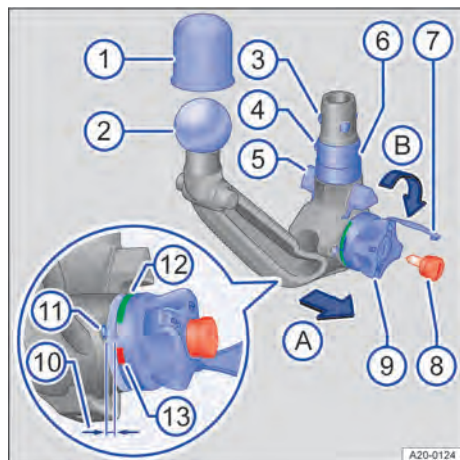

Fig. 158 Overview: removable ball coupling.
4. Check to ensure that the mounting, handwheel → Fig. 158 ⑨, shank ⑥ and the retaining balls ③ of the ball coupling are all clean and undamaged → ①. Clean if necessary.
1. Grasp the ball coupling underneath the ball head → Fig. 158 ② with one hand.
2. Remove the lock cap → Fig. 158 ⑦ from the lock and insert the key ⑧ into the lock.
3. Turn the key → Fig. 158 ⑧ anticlockwise.
4. Use your other hand to pull out the handwheel → Fig. 158 ⑨ in the direction of arrow A and hold it in this position → ⚠.
5. Turn the handwheel → Fig. 158 ⑨ in the direction of the arrow B until it engages. The ball coupling is now pre-tensioned. The red marking ⑬ on the handwheel must point towards the white marking ⑪ on the ball coupling. The handwheel protrudes clearly from the ball coupling. The gap between them is approximately 4 mm ⑩.
6. Check to see whether all retaining balls → Fig. 158 ③ can be pressed fully into the ball coupling shank ⑥.
2. Push the ball coupling firmly upwards until it engages. Both centring devices → Fig. 158 ⑤ must engage in the mounting points on the vehicle.
3. The handwheel → Fig. 158 ⑨ has now returned to its original position. There is no longer a gap between the handwheel and the ball coupling.
4. Turn the key → Fig. 158 ⑧ in the handwheel clockwise and remove it.
5. The handwheel → Fig. 158 ⑨ may now no longer be pulled out.
6. Fit the lock cap → Fig. 158 ⑦ on the lock and place the key in the stowage box.
1. The green marking → Fig. 158 ⑫ on the handwheel must point towards the white marking on the ball coupling ⑪.
2. The handwheel → Fig. 158 ⑨ must rest on the ball coupling and there must be no gap between them.
3. Shake or pull down on the ball coupling → Fig. 158 with some force. It must sit firmly in the mounting → ▲.
4. The lock must be locked and the key → Fig. 158 ⑧ removed.
5. The lock cover → Fig. 158 ⑦ must cover the lock in the handwheel.
- Never use the towing bracket if the smallest diameter of the ball → Fig. 158 ② is less than 49 mm.